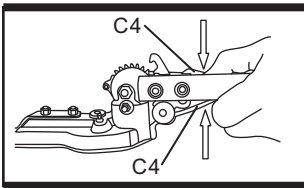

Fig. 16b
b). Depress the unlock levers (C4) with one hand and hold them in position. (See Fig. 16b)